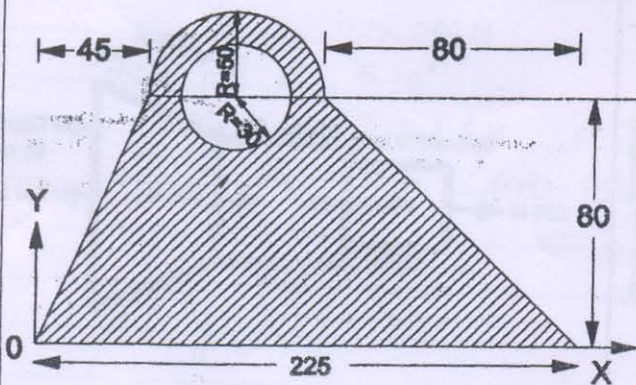

Figure 3
- (c) Locate centroid of the plane area shown in figure 3. 04